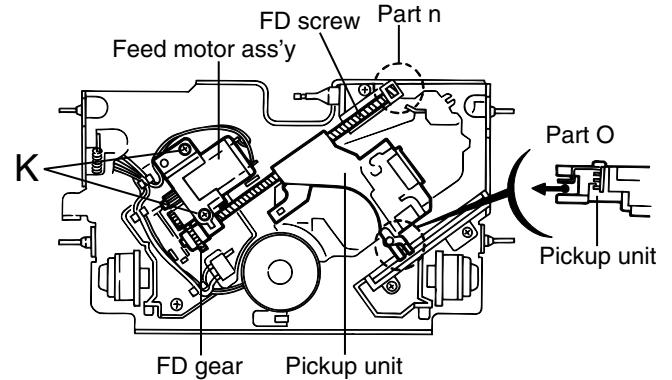

Fig.19
■ Removing the feed motor ass'y (See Fig.19)
■ Removing the pickup unit (See Fig.19 and 20)